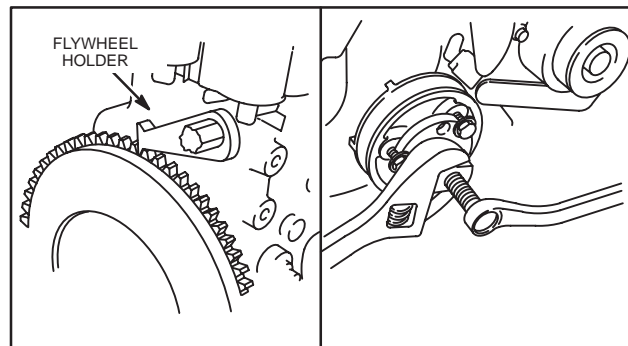

Fig. 3 – Removing Crankshaft Pulley
- a. Remove crankshaft pulley using Tool #19420, Fig. 3.